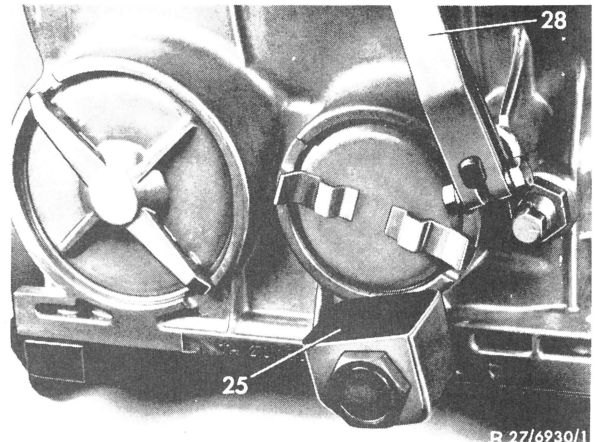

Fig. 4
5 Unscrew solenoid valve (25) and control pressure lever (28) (Fig. 4).